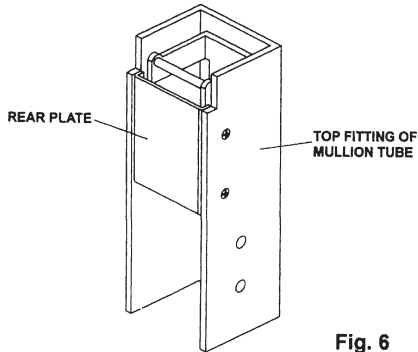
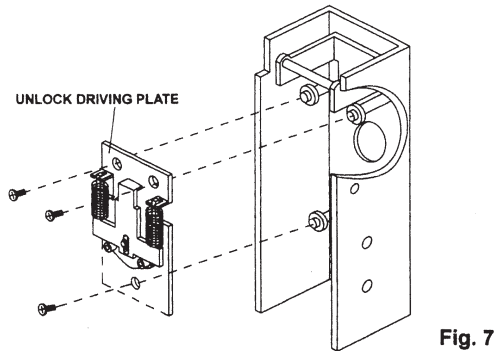

Fig. 6
Fig. 7
1. Remove the Rear Plate by removing the 4 attachment screws (see Fig. 6). Now remove the Unlock Driving Plate by removing its 3 attachment screws. (See Fig. 7).